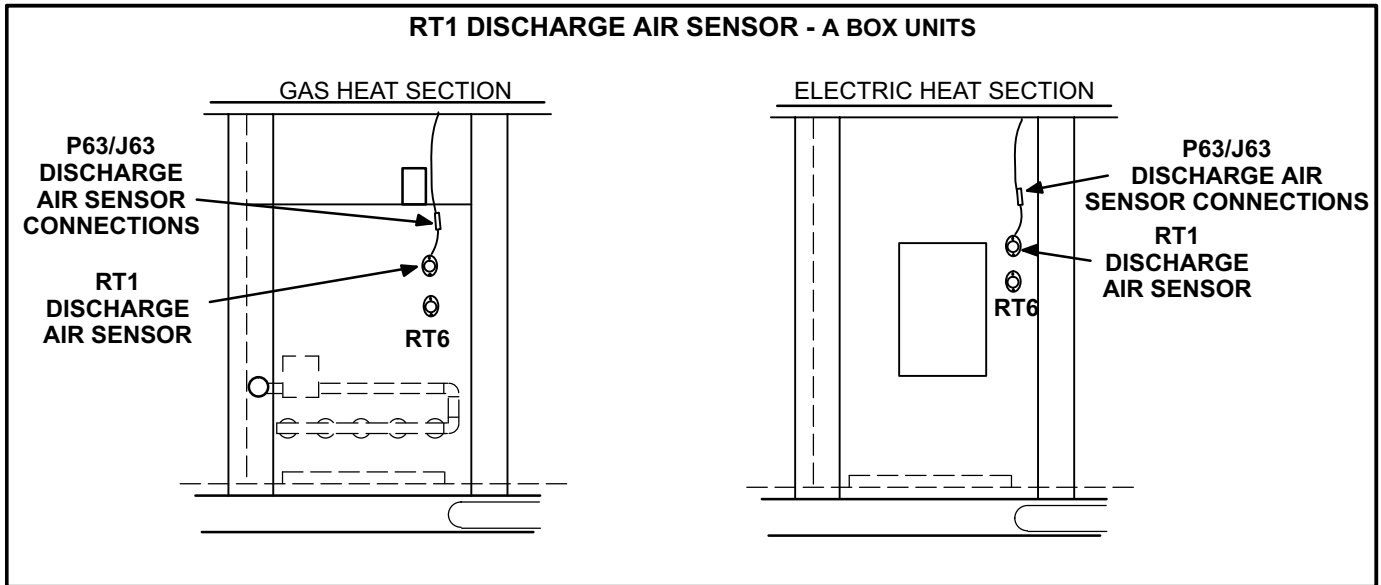
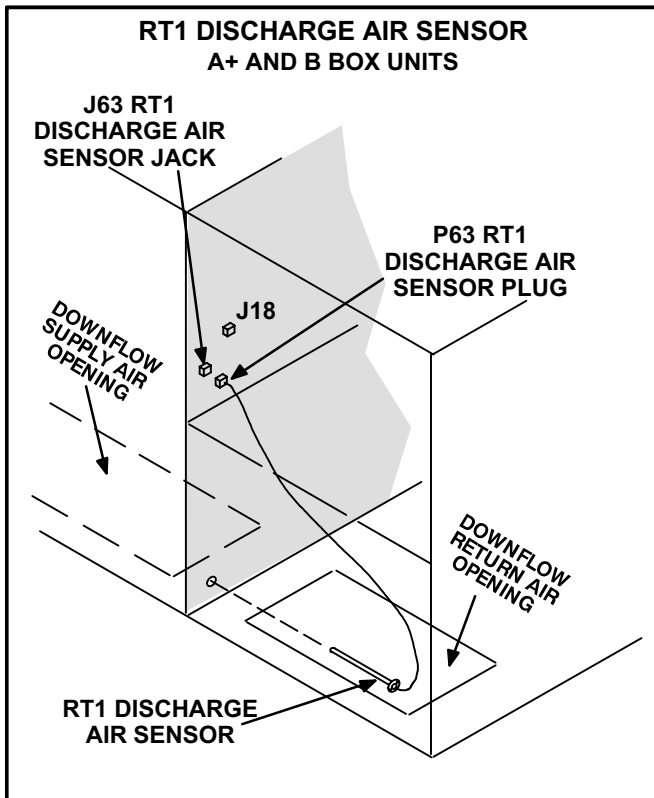

FIGURE 8
FIGURE 9
- 2- Insert discharge air sensor probe into knockout as shown in figure 8 on A box units, figure 9 on A+ and B